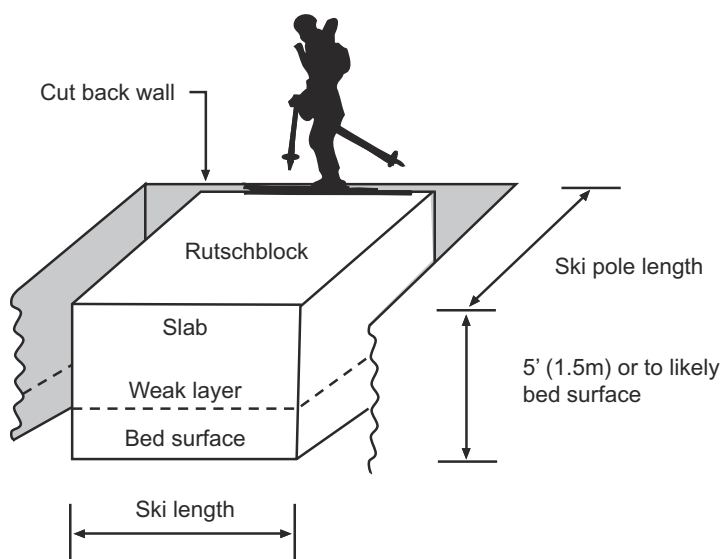

Figure 1-5. Rutschblock Test.
- Being very careful not to disturb the area of the rutschblock, use a snow saw or a knotted length of cordage and cut the back of the wall to isolate the snow block (see fig. 1-5).